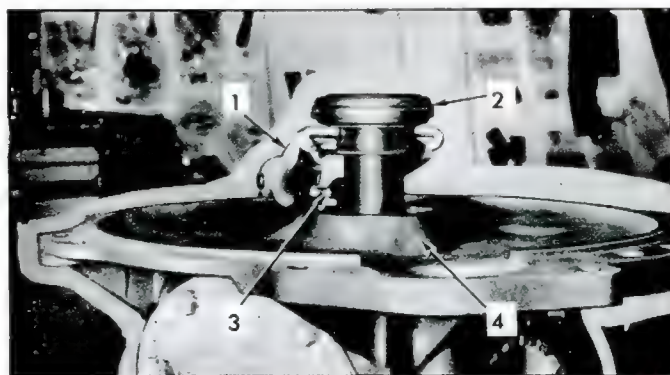

Fig. 7-4—Removing Clutch Release Bearing
The clutch is operated with a conventional clutch fork, except that it is shorter and operates by pulling instead of pushing. The clutch fork engages the throwout bearing which is piloted on the axle housing (fig. 7-4).
3. The clutch fork, ball stud and clutch release bearing is removed with the axle housing as shown in Figure 7-4.
7. Install clutch fork on the clutch fork ball and the clutch release bearing on the axle housing (fig. 7-4).